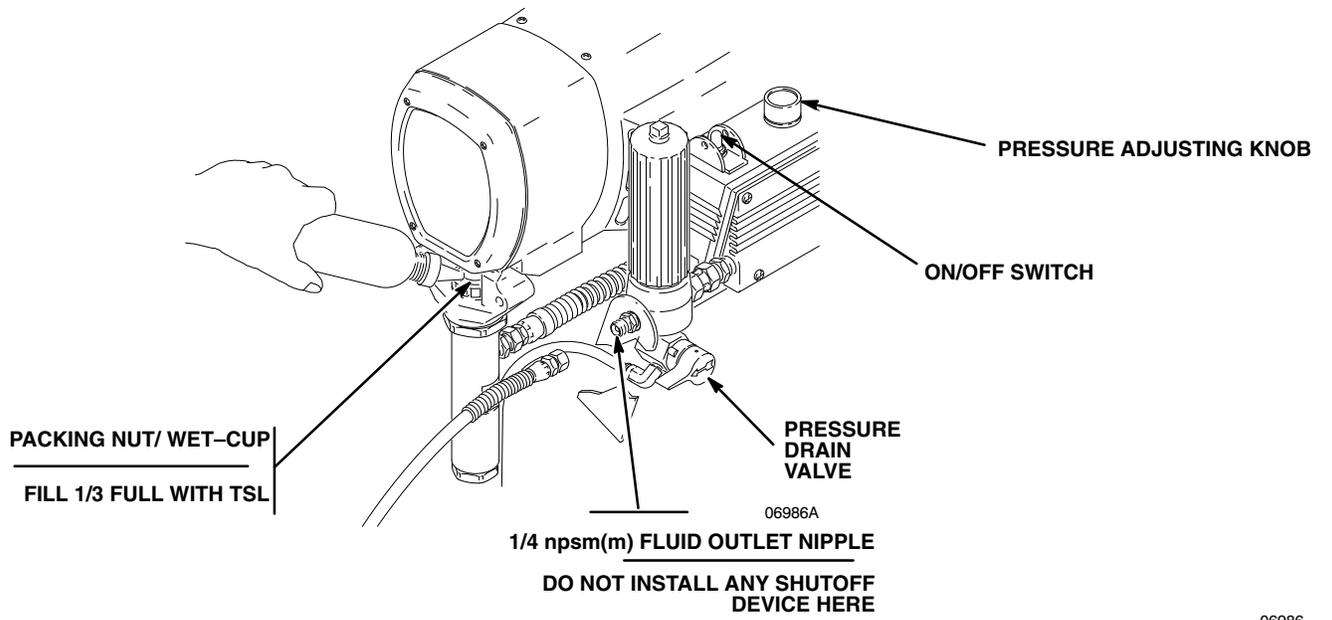

Fig. 3
3. Never install any shutoff device between the filter and the main hose. See Fig. 3.
NOTE: See Fig. 3 while doing the setup.